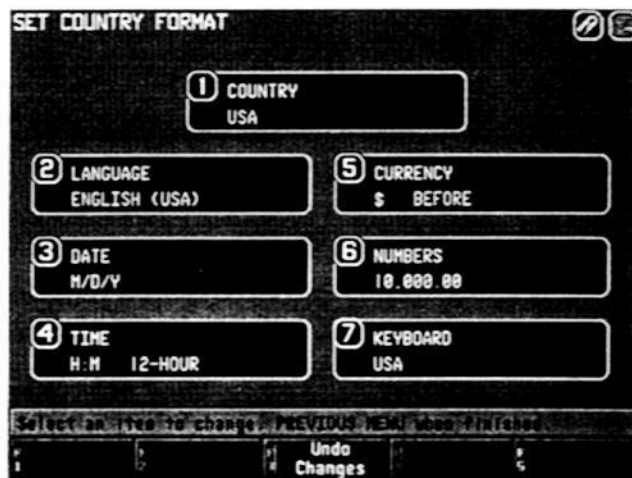

Figure 5-15
2. The "Set Country Format" screen appears (see Figure 5-15). The current settings are displayed on the screen.